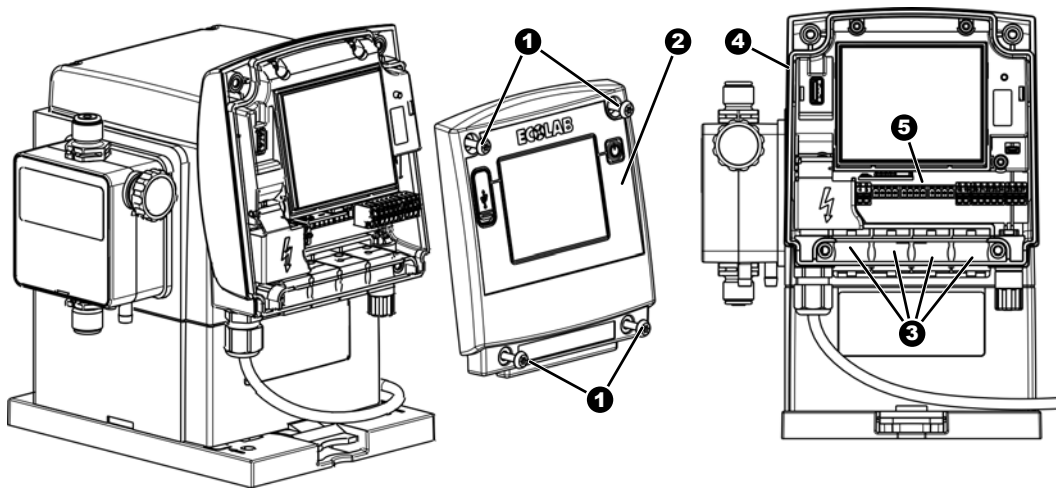

Fig. 11: Electrical installation of 'EcoAdd'
1. ➤ Remove all four housing screws (Fig. 11 , 1).
2. ➤ Remove the front cover (2).
3. ➤ Route the connector lines through the cable grommets (3).
The terminals can be accessed after removing the front cover (Fig. 11 , 2).